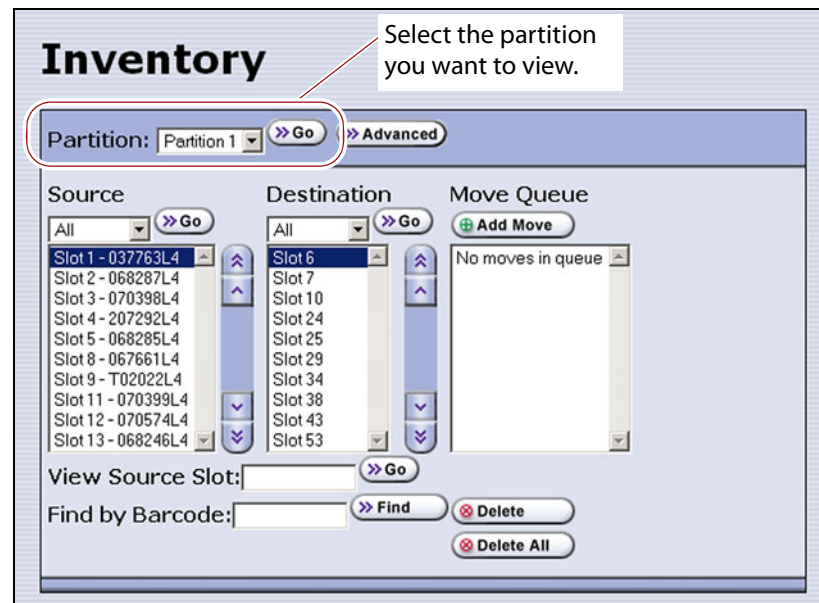

Figure 165 The Inventory screen.
4. If you want to download the inventory for a partition other than the one currently displayed, select the desired partition from the **Partition** drop-down list, then click **Go** (see Figure 165 on page 267).